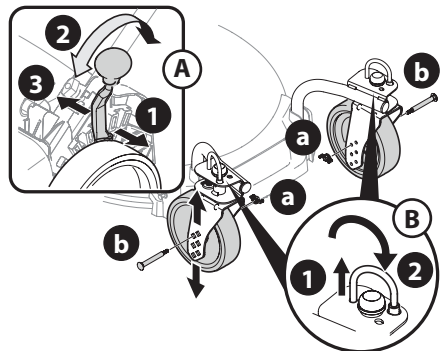

Figure 24
**NOTE:** The rear wheel cutting height adjustment lever is located above the rear left wheel (Inset A, Figure 24).
**NOTE:** The caster wheels cutting height are determined by selecting one of six positions on each caster assembly (Figure 24).
6. The casters can be locked in a straight ahead position or positioned to swivel freely (Inset B, Figure 24).